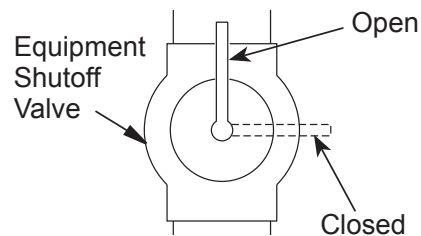

Figure 14 - Equipment Shutoff Valve
1. Close equipment shutoff valve (see *Figure 14*).
1. Open equipment shutoff valve (see *Figure 14, Page 15*).